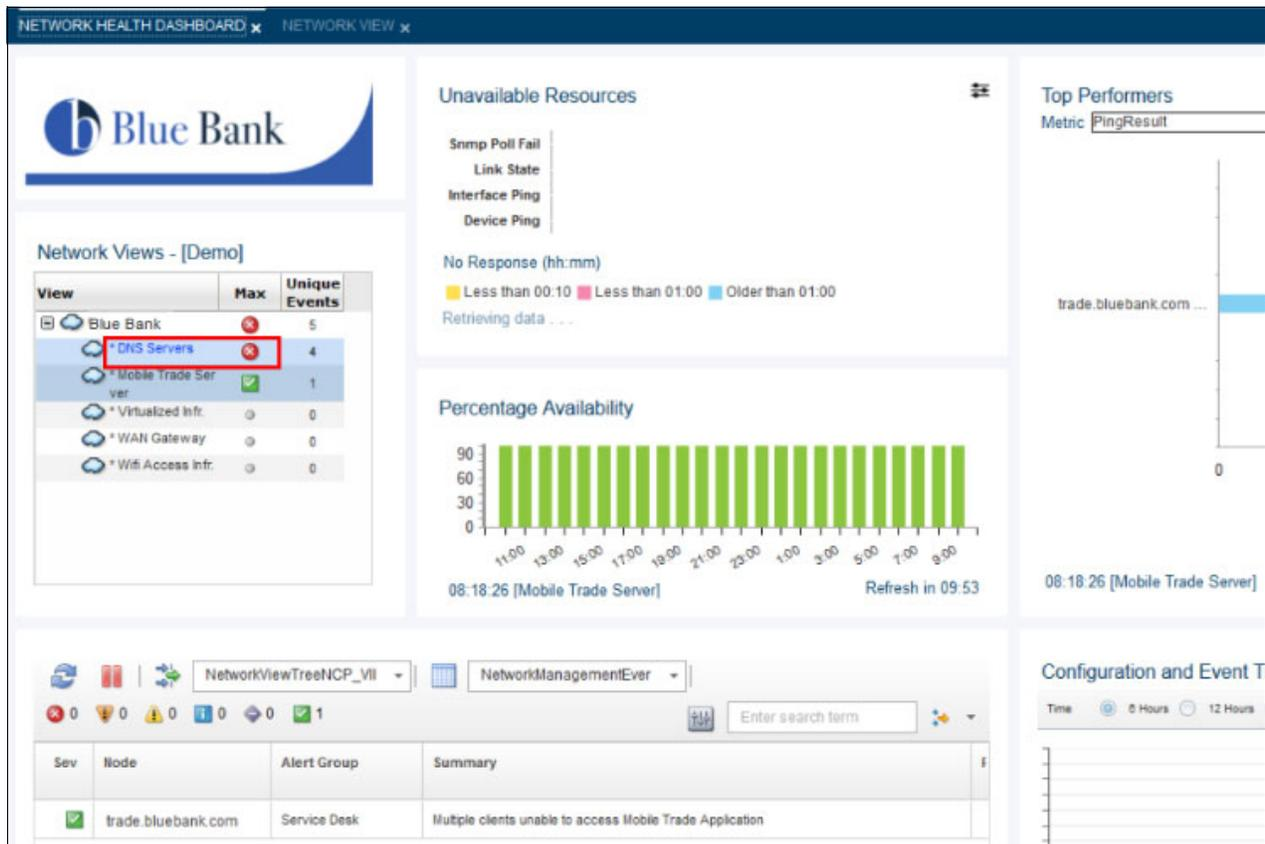

Figure 2-26 Network View shows issues with the DNS Servers
1. Brock logs in and brings up the Network Health Dashboard by clicking **Incident** → **Network Health Dashboard**, as shown in Figure 2-26.